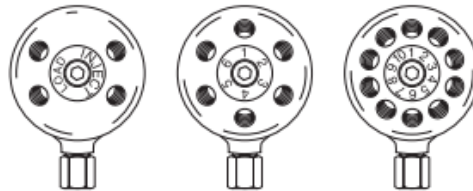

Figure 3:
7. The cap can go on two ways. Install it over the alignment pins with port number 1 opposite the air inlet. (**Figure 3**)